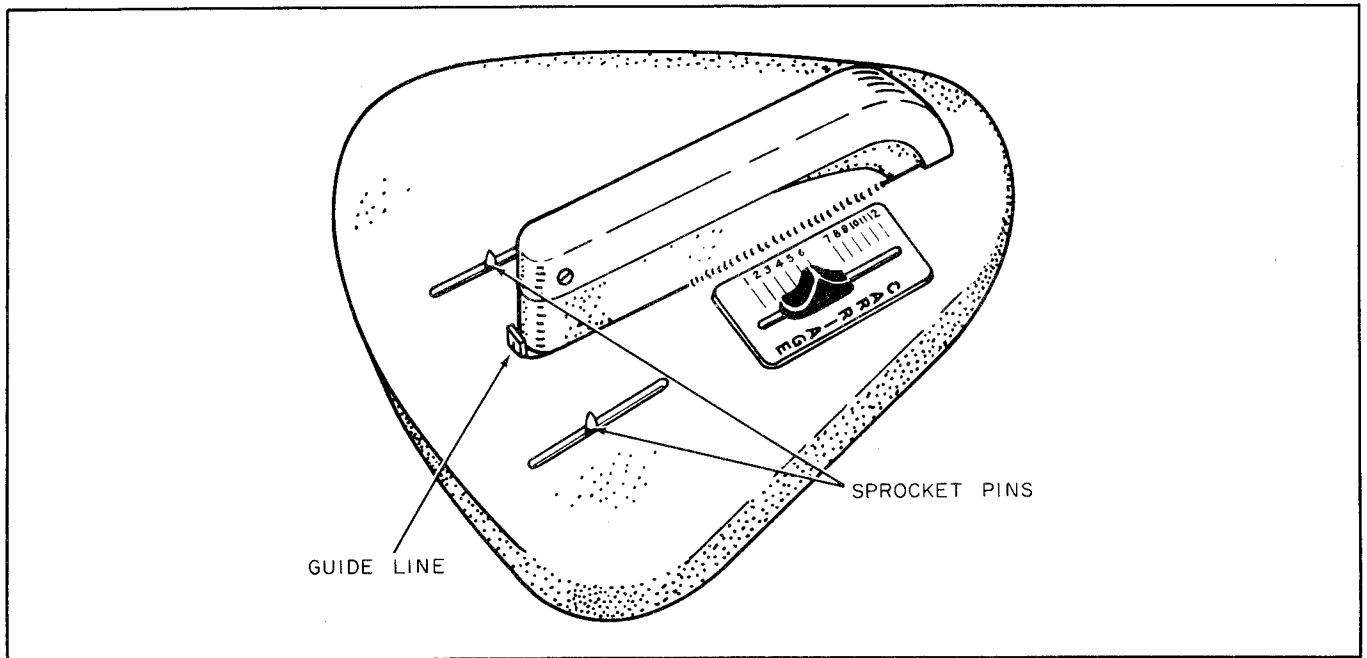

Figure 4-2. Format Tape Punch
Format Tape Punch (Figure 4-2) - Part No. 120910
6. Insert the tape into the puncher, aligning the first hole to be punched beneath the punch guide line (see Figure 4-2). The Channels 1-12 are selected by moving the CARRIAGE button.